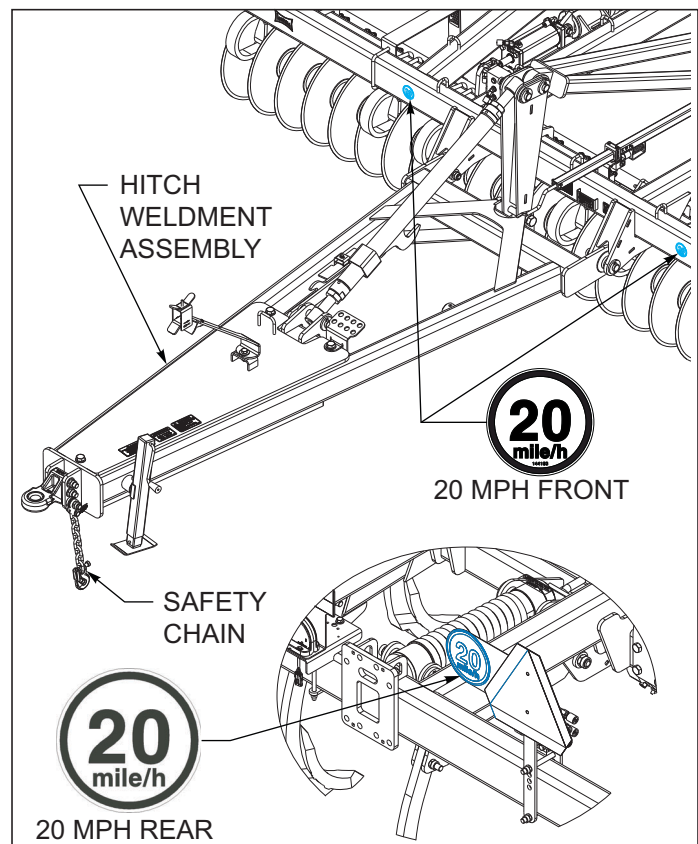

Figure 4-6: Hitch, Speed Identification Symbol, and Safety Chain
2. The 2112 Coulter Chisel should be transported only by tractor required for field operation. The implement weight should not exceed more than 1.5 times the tractor weight. Unless noted on the implement, maximum transport speed is 20 mph for the implement. See Figure 4-6. Slow down when driving on rough roads. Reduce speed when turning, or on curves and slopes to avoid tipping.
- b. Attach the safety chain to the tractor drawbar. See Figure 4-6. Provide only enough slack in the chain for turning. Do not use an intermediate chain support as the attaching point for the chain on the tractor. Do not pull the implement by the safety chain.